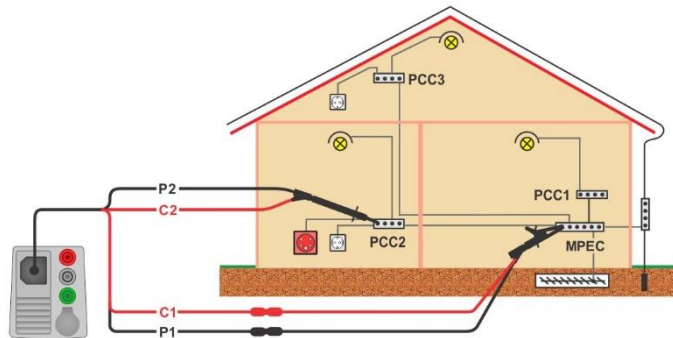

Figure 7.26: Connection of 4-wire test lead plus optional extension leads
- ▶ Connect test leads to device under test, see *Figure 7.26*. Use extension leads if necessary.